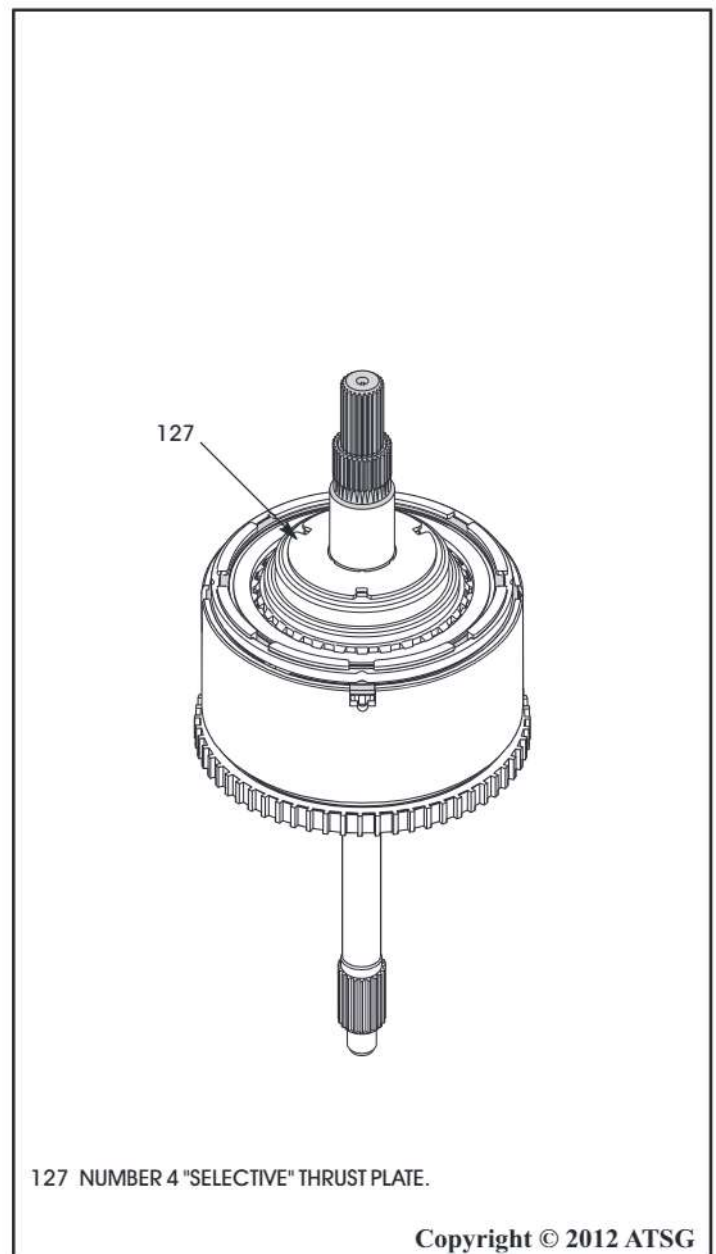

Figure 256
53. Ensure that number 4 "selective" thrust plate is still stuck to pre-assembled input housing with a liberal amount of Trans-Jel®, as shown in Figure 256.